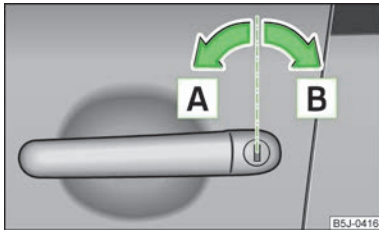

Fig. 12
- > Turn the key in the locking cylinder of the driver's door in the direction of travel (unlocking position) **A** » Fig. 12.
- > Turn the key in the locking cylinder of the driver's door in the opposite direction of travel (lock position) **B** » Fig. 12 on page 28.